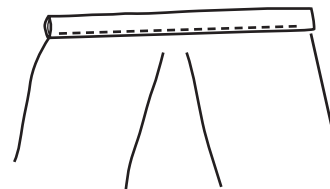

Figure 14
8. Stitch binding in place by topstitching or stitching-in-the-ditch (Figure 14).